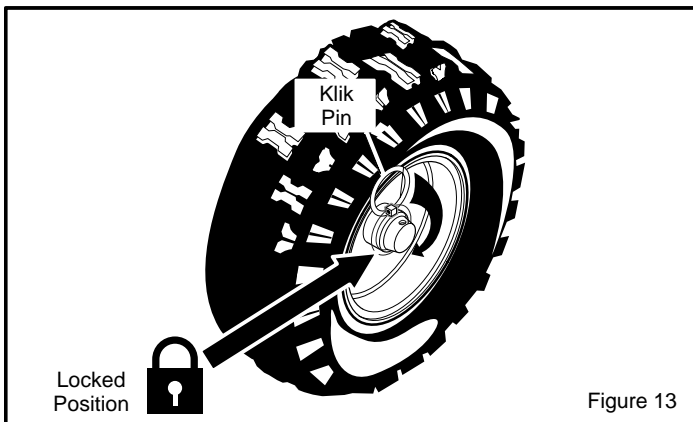

Figure 13
1. The right wheel is secured to the axle with a klik pin. This unit was shipped with this klik pin in the locked position. (Figure 13).